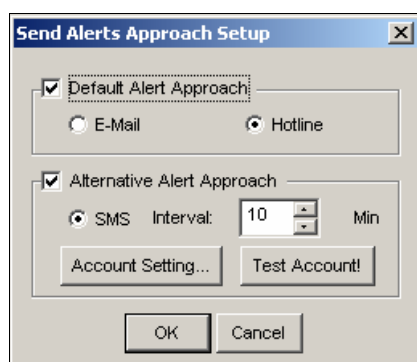

Figure 10-10 Send Alerts Approach Setup
7. Click the **Test Account** button (Figure 10-10). If the connection of both devices is established, the message will appear: *Login SMS Server OK!* If the connection fails, the message will appear: *Connect to SMS Server Fail.*
1. Open the **Send Alerts Approach Setup** dialog box (Figure 10-10).